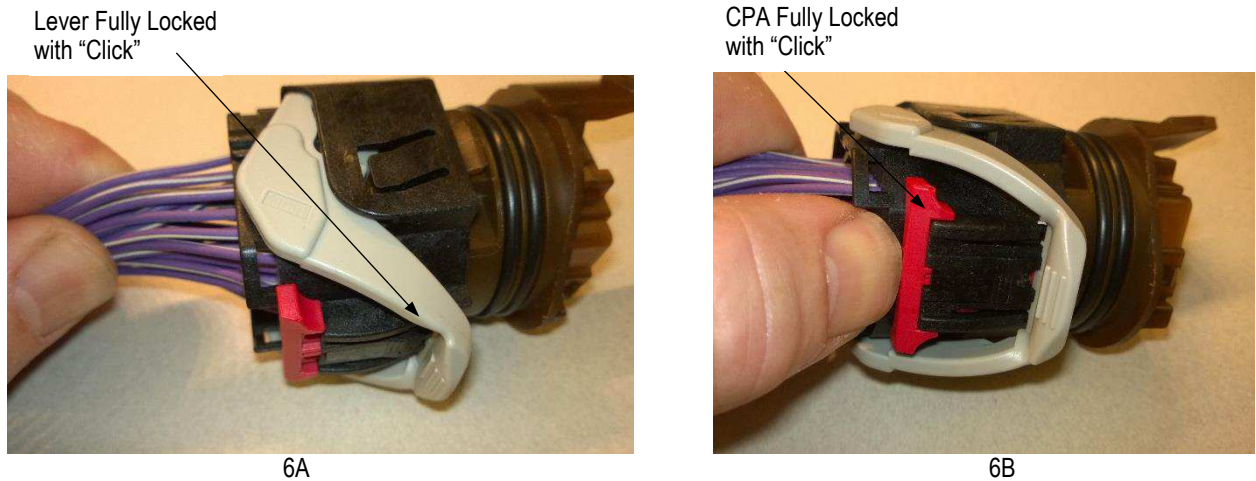

Figure 6
3. Manually rotate the mating lever (toward the body) until it stops. There should be a loud audible click. See Figure 6, Detail A. The mating lever is now in the locked position.
4. Push the CPA toward the lever. The CPA is now in the locked position. See Figure 6, Detail B.